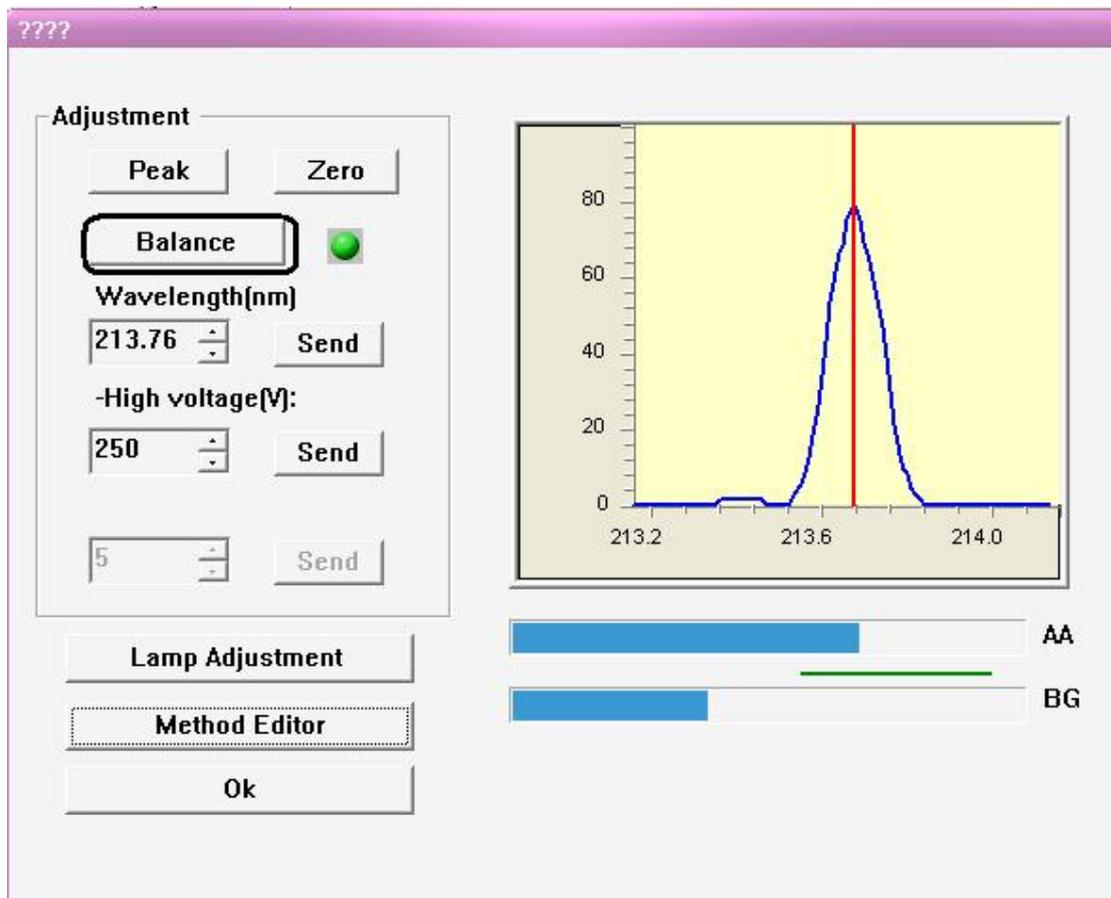

Figure 6-5
6. After this, press **Balance** to balance the D2 lamp and element lamp, figure 6-5